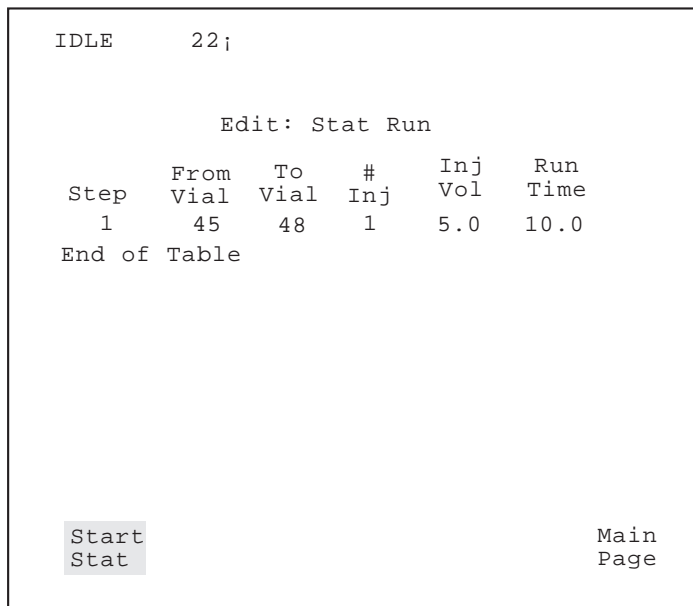

Figure 4-23 Edit Stat Run Screen
3. From the Auto Run Status screen, press **Stat Run**, and the Edit Stat Run screen appears (Figure 4-23).